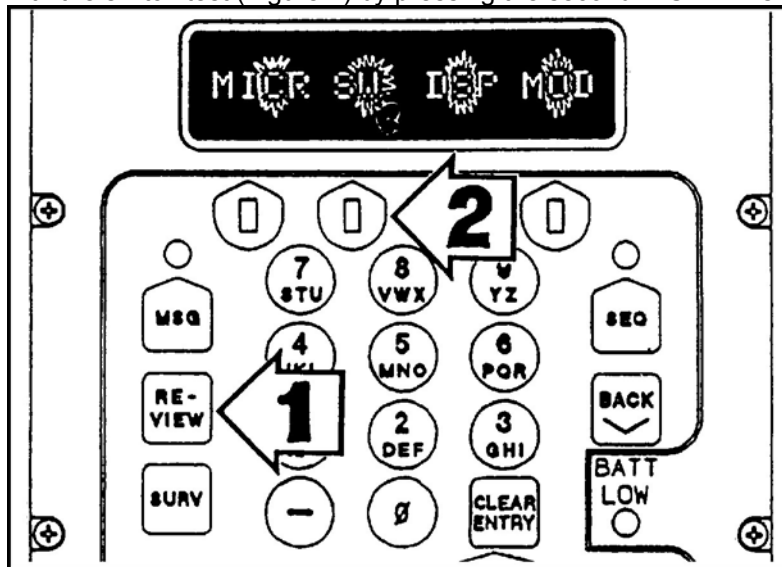

Figure 7. Switch test.
3. Conduct the switch self-test (SW).
- b. Proceed with the switch test (Figure 7) by pressing the second DISPLAY switch.